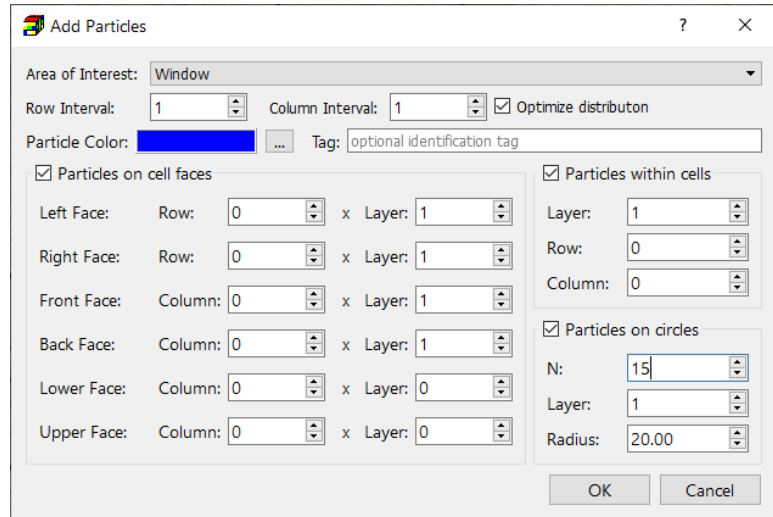

Figure 159. The Add Particles dialog box
- Click and drag the mouse cursor to draw a window covering the region where particles should be placed, then release the mouse button to open the Add Particles dialog box (Figure 159). The features of the dialog box are as follows